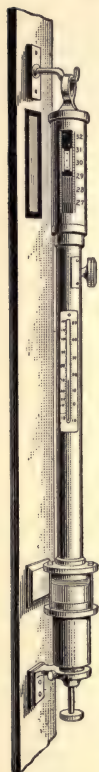

FIG. 17.
50. A standard form of barometer is shown in Fig. 17. The barometer is simply a pressure gauge that registers the pressure of the air. In this case the cup and tube at the bottom are protected by a brass or iron casing. At the top of the tube is a graduated scale. Attached to the casing is an accurate thermometer for determining the temperature of the outside air at the time the barometric observation is taken. This is necessary, since mercury expands when the temperature is increased and contracts when the temperature falls; for this reason a standard temperature is assumed, and all barometer readings are reduced to this temperature. This standard temperature is usually taken at 32° F.,